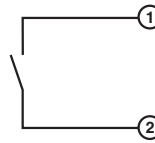
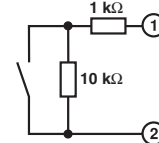

Figure 5 Switch contact with open circuit
Figure 6 Switch contact with resistance circuit
**NOTE:** For **switch contacts with open circuit** (Figure 5), line fault detection (DIP2 = I) must be disabled or the corresponding resistance circuit must be provided directly at the switch contact (Figure 6, e. g. UKK 5-2R/NAMUR (Order No. 2941662) with D-UKK 3/5 (Order No. 2770024)).
**WARNING:** Only switch contacts with resistance circuit are **permitted** at the input for safety-related applications (see Figure 6).